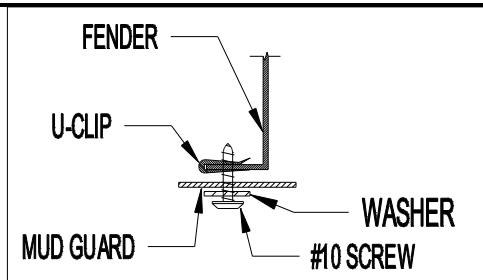

Figure 2
8. U-clips are included to install behind fender if you prefer, or in case a hole is drilled to large. See Figure 2